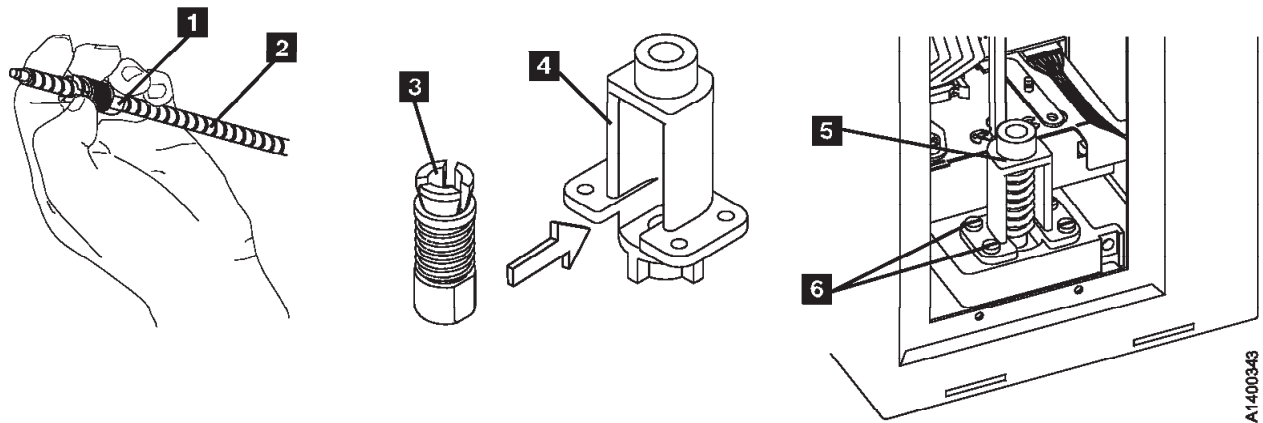

Figure 10-9. Leadscrew, Nut, and Retainer
1. See Figure 10-9 on page 10-17. If a new leadscrew assembly is being installed, it will be necessary to remove the nut from the new leadscrew and install it in the new retainer before the retainer is installed in the ACF.